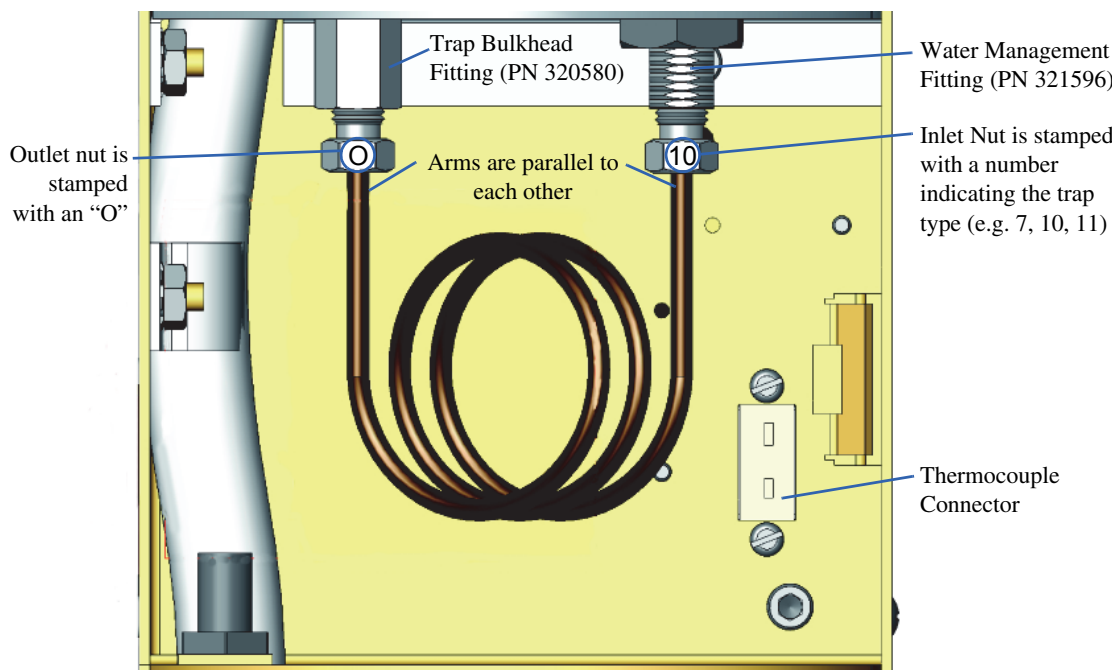

Figure 6.30. Maintenance: Identifying the trap components
7. Position the new trap so that the outlet fitting nut (designated by a "O" on the trap nut) is aligned with the trap bulkhead fitting located closest to the Eclipse's center wall, and the inlet fitting nut (stamped with a number indicating the trap type) is aligned with the water management fitting (Figure 6.30).